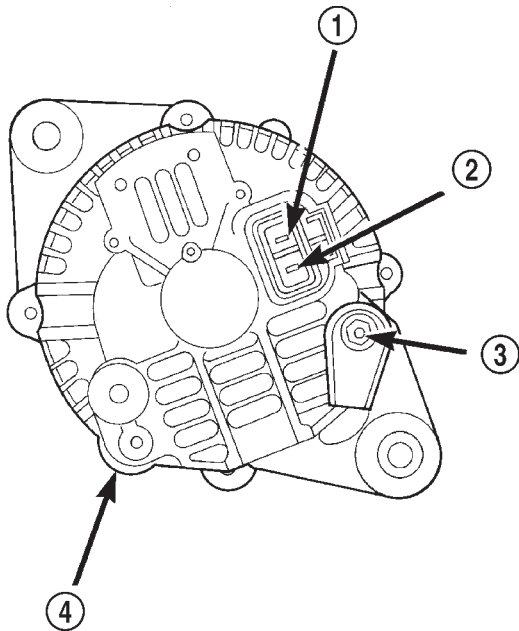
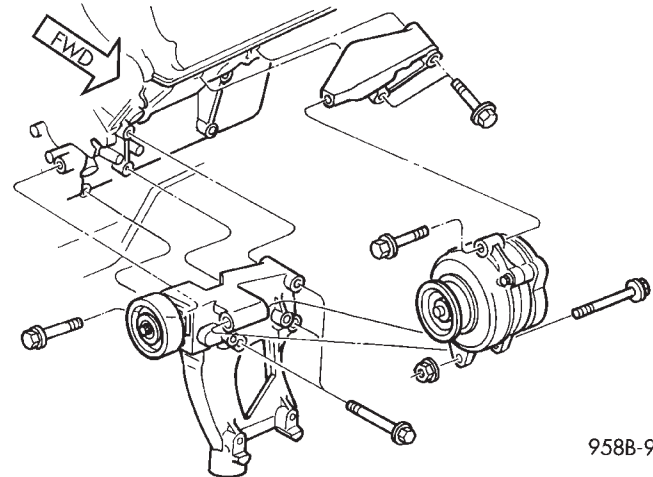

Fig. 2 Wiring Connections—2.5L
Fig. 3 Generator—2.5L Engine
- (1) Disconnect battery negative cable from remote negative terminal on shock tower.
- (2) Unplug field circuit from generator.
- (3) Remove the B+ terminal nut and wire (Fig. 2).
- (4) Loosen top mounting ear bolt.
- (5) Loosen pivot bolt, but do not remove. Be careful not to lose nut (Fig. 3).
- (6) Loosen adjusting bolt on idler to allow removal of the generator drive belt. Refer to the Cooling System.
- (7) Remove pivot bolt, do not drop spacer.
- (8) Remove top mounting ear bolt.
- (9) Remove upper generator bracket.
- (10) Remove generator.
- (1) Install generator.
- (2) Install upper generator bracket.
- (3) Install top mounting ear bolt.
- (4) Install pivot bolt, do not drop spacer.
- (5) Install field circuit to generator.
- (6) Install the B+ terminal nut and wire (Fig. 2).
- (7) Tighten adjusting bolt on idler for the generator drive belt. Refer to the Cooling System.
- (8) Tighten the top mounting ear bolt.
- (9) Tighten the pivot bolt (Fig. 3).
- (10) Connect battery negative cable to the remote negative terminal on shock tower.